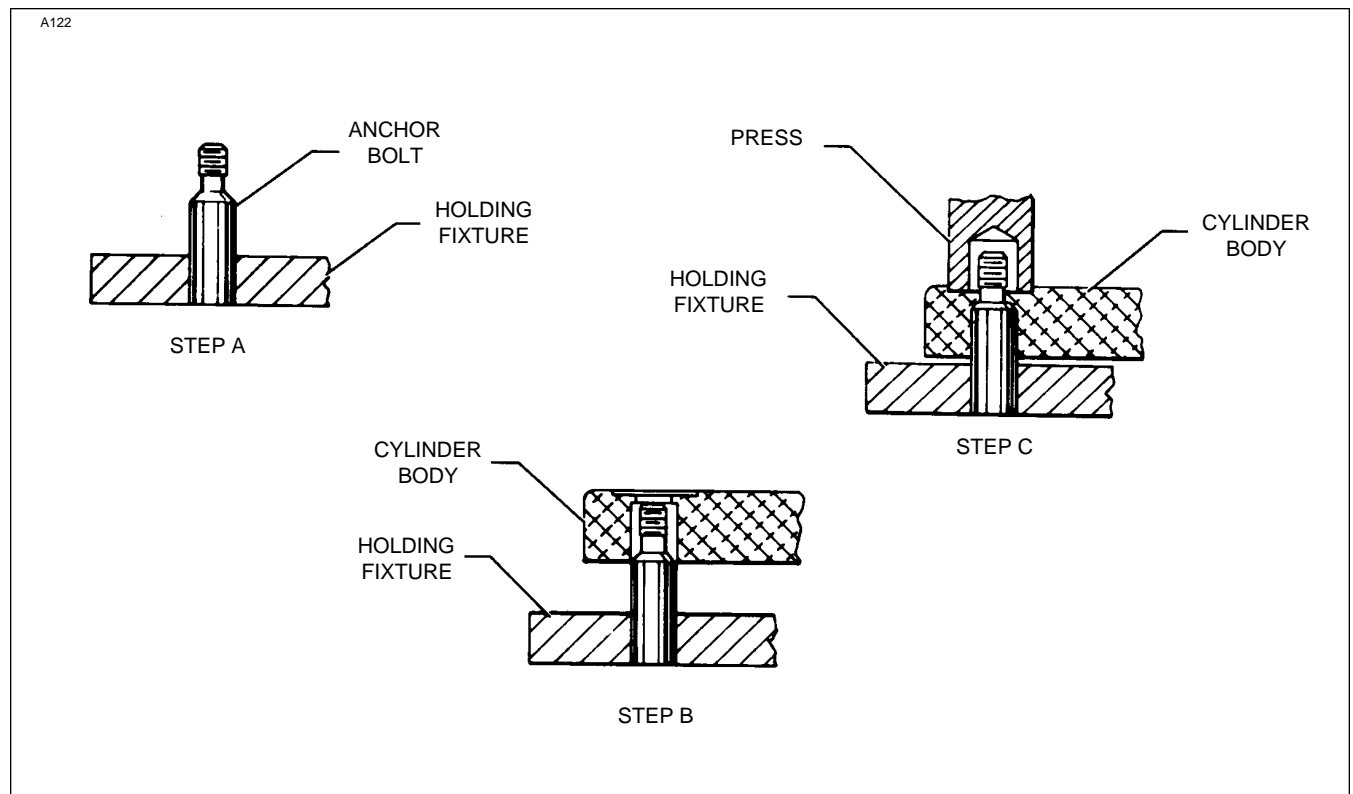

Figure 7-11 Installation of Anchor Bolt
1. Support Anchor Bolt in a holding fixture. (Refer to Figure 7-11. Step A).
2. Align cylinder body over anchor bolt. (Refer to Figure 7-11, Step B).
3. Use a suitable arbor press and apply pressure on the spot face directly over the anchor bolt hole. (Refer to Figure 7-11. Step C).